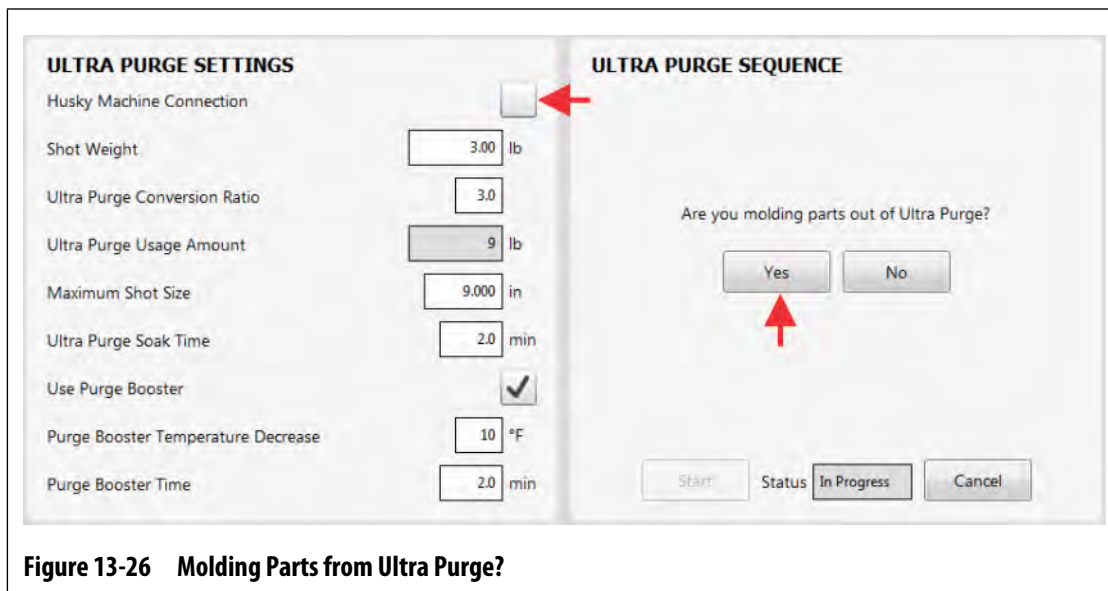

Figure 13-26 Molding Parts from Ultra Purge?
10. Make sure that the Husky Machine Connection checkbox is not checked (refer to Figure 13-26).